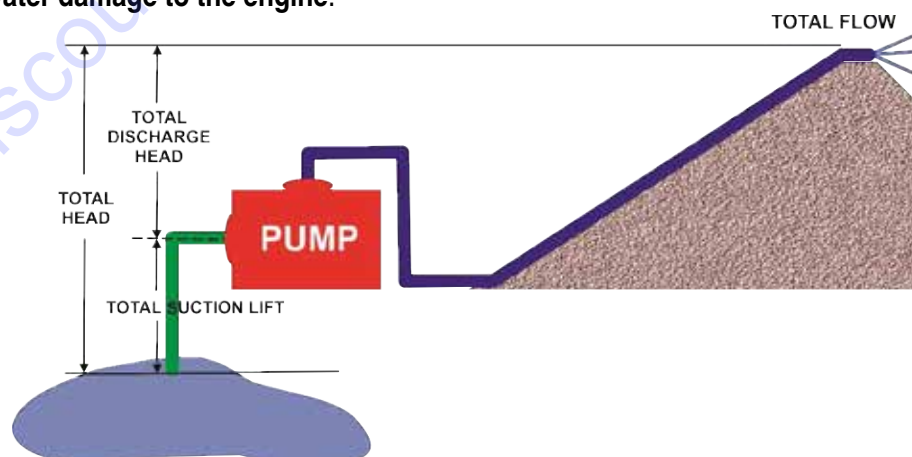

Figure 9. Pump Setup
1. Place the pump on a solid, level operating surface as close as possible to the water source. The most critical factor for successful pump operation is the total suction lift, which should not exceed 25 feet (7.6 meters) at sea level. See Figure 9.